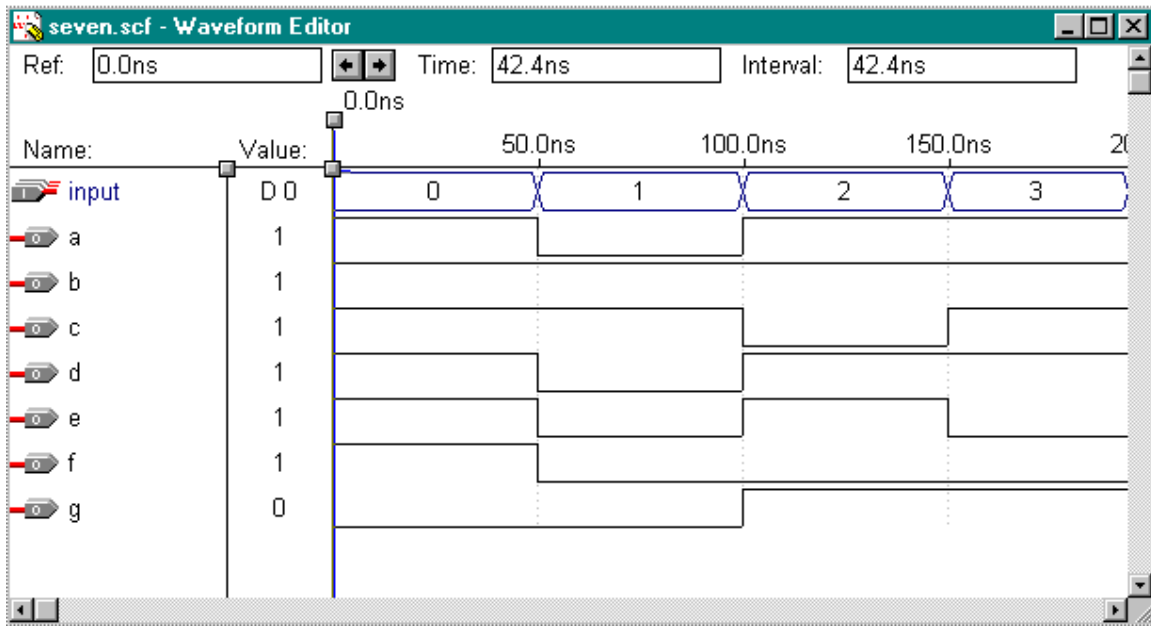

Figure 3-2.
5. Check to see if you get the same results shown in Figure 3-2.